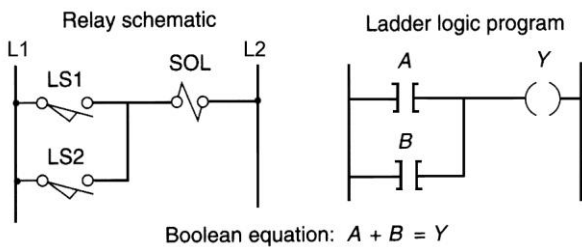

Figure 4-22 Program for assignment 2.
2) Program the relay schematic of Figure 4-22 using your PLC, and simulate its operation.